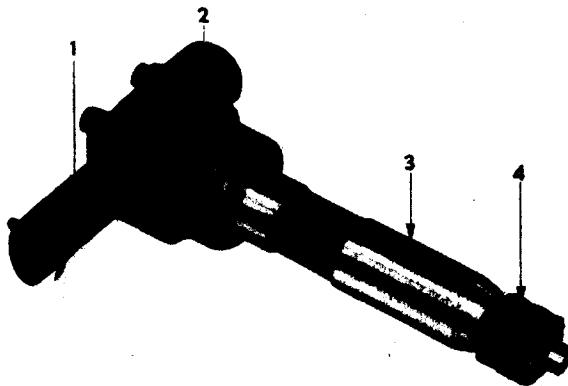

Fig. N.6. Lubricating Oil Pump Assembly.
1. Remove delivery and suction pipes. Pump will now be as shown in Fig. N.6.